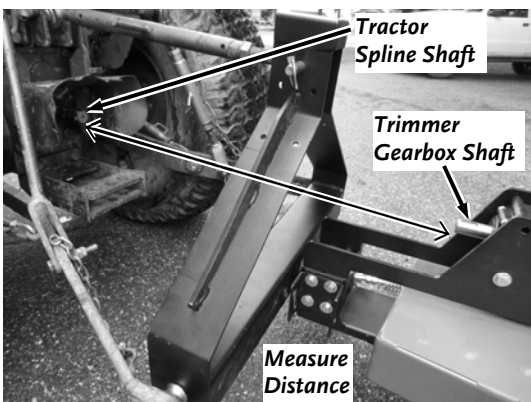

Figure 8
4. Lower the Trimmer all the way to the ground in the operating position (**Figure 8**). Measure from the end of the Tractor Spline Shaft to the end of the Trimmer Gearbox Shaft and record this dimension in the “ON GROUND” row of the table above.